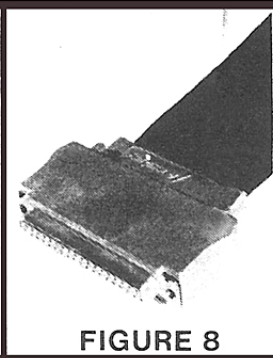

FIGURE 8
8. Secure with self-tapping screws. See Figure 8.